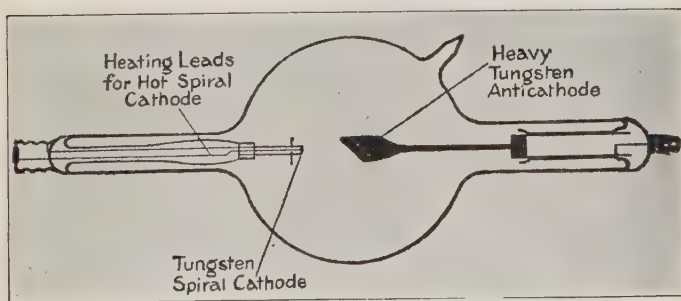

FIGURE 684. — COOLIDGE X-RAY TUBE.
**473. X-Ray Tubes.** — In the earlier forms of X-ray tubes, electrons driven from the concave surface of the cathode of a Crookes tube were allowed to focus on a heavy metal plate, placed in the center of the tube at an angle of  $45^\circ$  to the cathode stream. The violent bombardment of the electrons on this small area gave rise to X-rays that streamed out from this point in all directions. Some were intercepted by the glass, but many passed through, if the right kind of glass were used. In the modern Coolidge tube (Figure 684), the vacuum is about a billionth of an atmosphere. The elec-